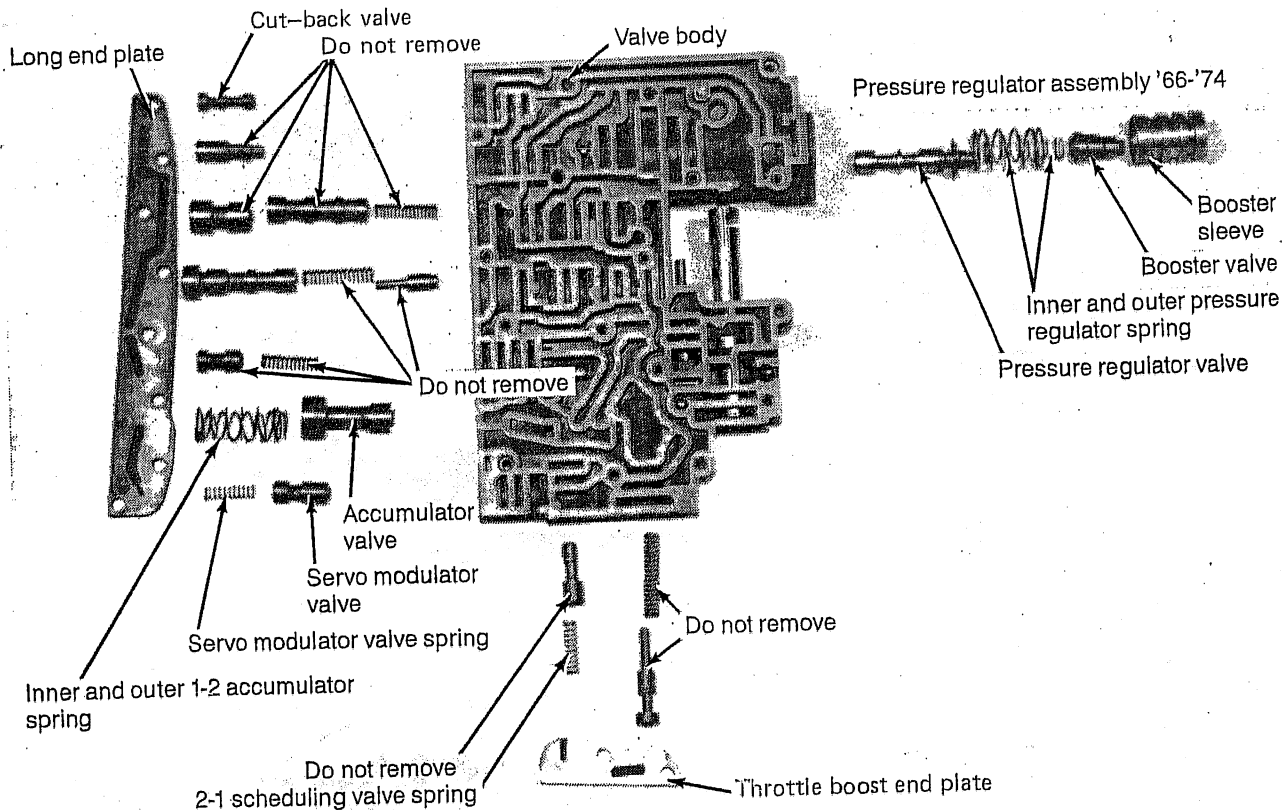

FIGURE 7
'66-'74' (See Fig. 7) Remove the two end plate bolts. Hold your thumb over the end plate as you remove the last bolt so the spring pressure does not allow parts to fly out. Slowly shift the end plate off and remove the booster valve assembly and the pressure regulator springs. Replace the outer spring with the blue spring supplied with the kit. Install the stock inner spring as removed. Replace the booster assembly with the sleeve and valve supplied with the kit. Make sure the valve is properly installed in the sleeve. Push
STEP 10. Turn the casting so the throttle boost end plate is up. (See Fig. 7) Remove the two bolts that hold the end plate in place. Again, hold your thumb in place to prevent parts from springing out. Lift end plate off slowly to expose the 2-1 scheduling valve spring. Remove this spring and replace it with the violet spring supplied with the kit. Put the end plate back into position and hold it in place with your thumb. Install two hold down bolts **finger tight**.
STEP 11. Turn the casting so the long end plate faces up. (See Fig. 7) This end plate holds seven sets of valves in place. Remove eight bolts holding the end plate in place. Hold the end plate in place with your thumb while removing the last